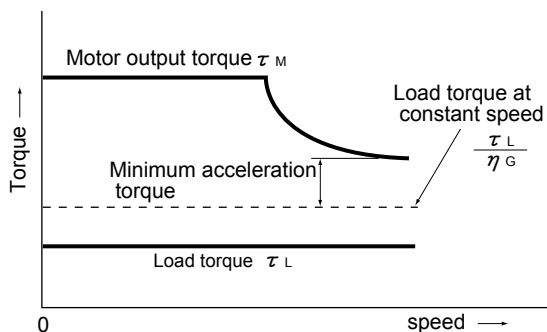

Fig. 4.4 Example study of minimum acceleration torque
② Calculate minimum acceleration torque. (See Fig. 4.4)